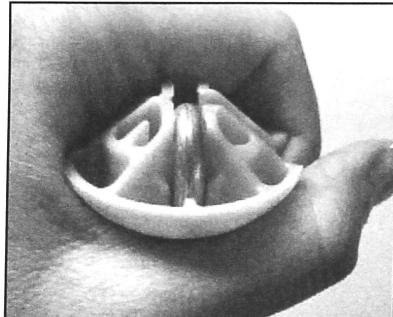

FIGURE 5
6. Hold suspension rod with one hand and with the other, pull suspension ball up. A 'snap' will be felt when the rod is fully seated in the ball. See *Figure 5*.